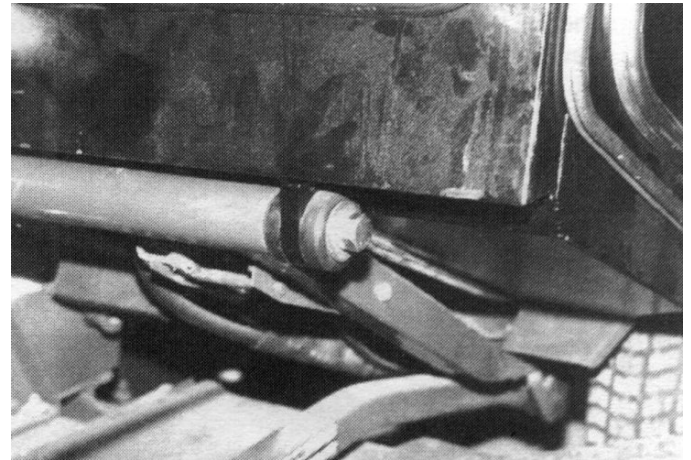
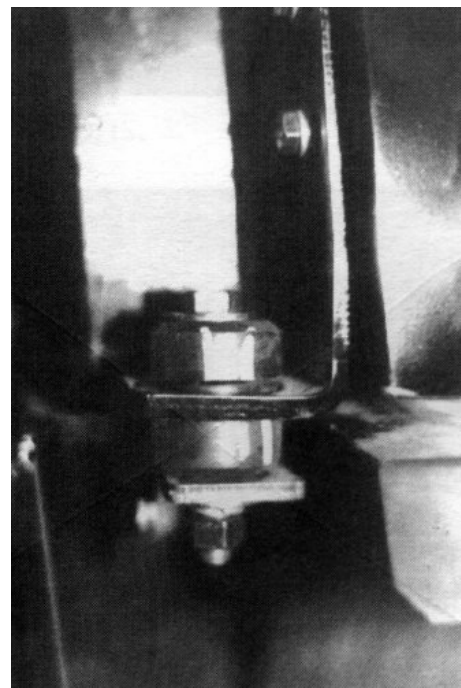

Figure 7
Figure 8
3. Lower cab onto machine frame. Align the front mounting pads on the cab with the mounting bar on the machine (See Figure 7) and the rear mounting pads with the cab mounting brackets installed in step A-3. (See Figure 8)
4. Fasten cab to machine frame using the hardware from the shipping stand. (See Figure 7 & 8)